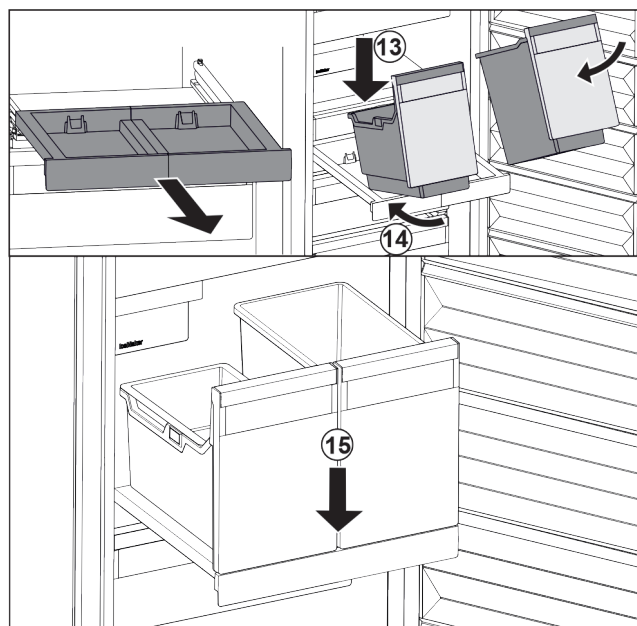

Fig. 24
- Place the container at an angle on the pull-out board. Fig. 24 (13)
- Slide in the container at an angle to the back. Fig. 24 (14)
- Place container at the front. Fig. 24 (15)